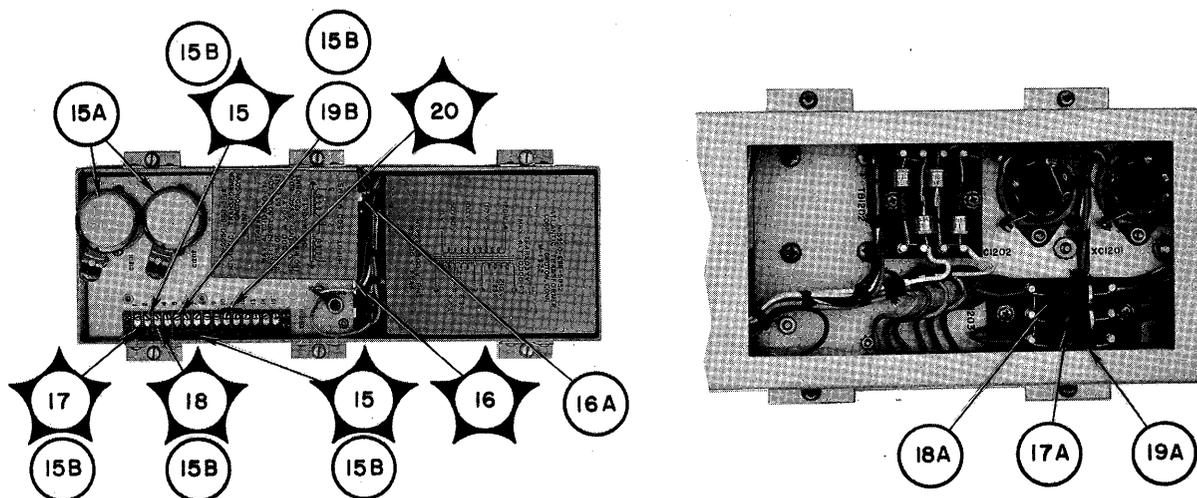

Figure 5-7. Demodulator Power Supply, Location of Test Points
e. DEMODULATOR POWER SUPPLY TROUBLE-SHOOTING CHART.—Table 5-6 is the trouble-shooting chart for the demodulator power supply. Perform the steps in the order given and compare the results with those listed in the NORMAL INDICATION column. If an indication is abnormal, follow the instructions given in the NEXT STEP column. Figure 5-7 shows the location of test points.